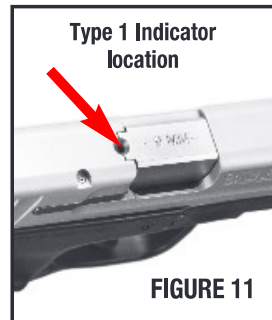

FIGURE 11
- **Type 1:** This indicator can be observed by looking at the top of the slide/ejection port, (FIGURE 11) noting an opening at the rear of the barrel hood. By looking into this opening, you can observe whether or not a round is in the firearm's chamber. If a round is in the chamber, you should be able to see the actual cartridge rim through this opening.